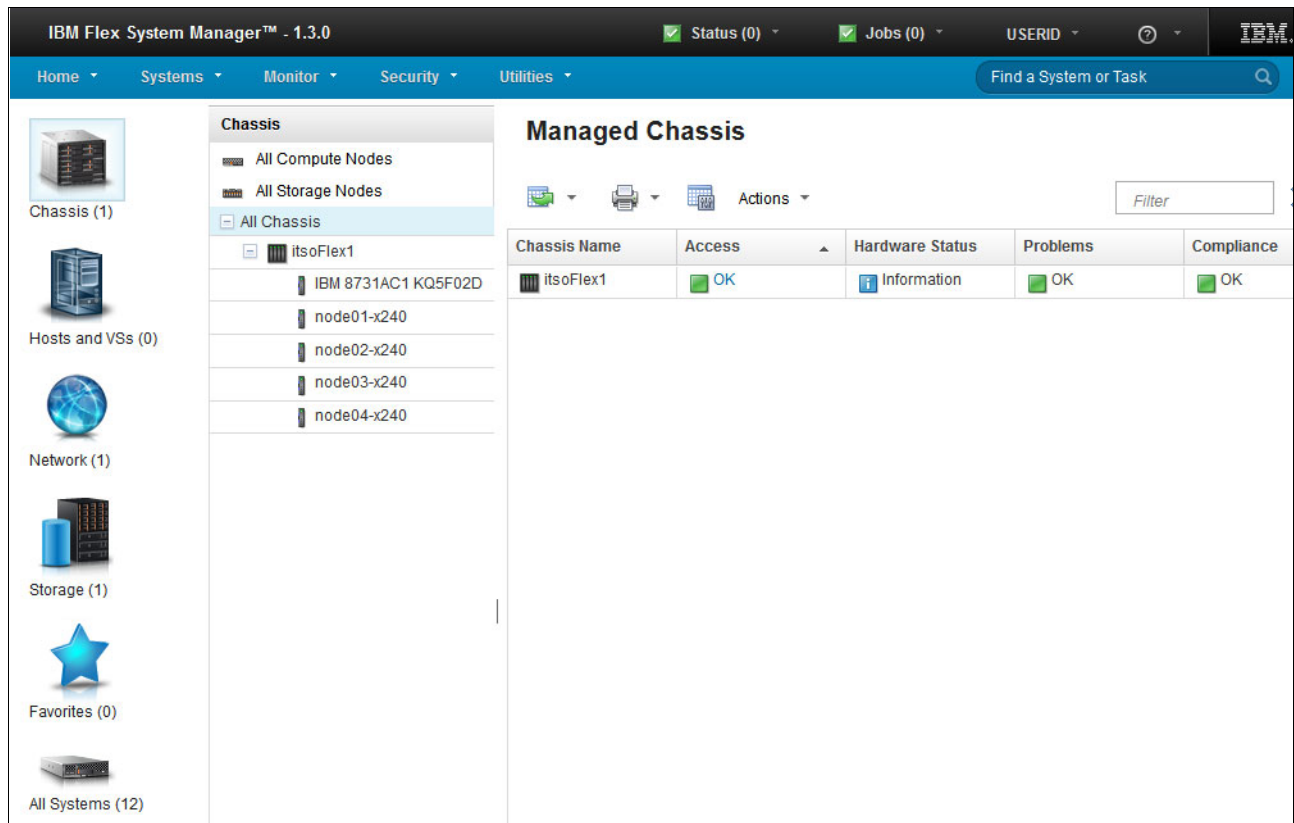

Figure 6-49 FSM Managed Chassis window
1. Open the FSM Explorer web interface by clicking **Launch IBM FSM Explorer** on the Initial Setup tab in the Home window. The main FSM Explorer window opens, as shown in Figure 6-49.